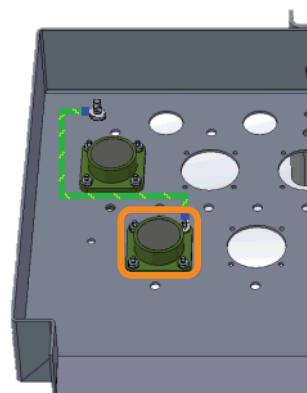

Figure 1 Install Ring Terminal
Step 1. Install the 3-pin cable for input power in the bottom of the cabinet in the leftmost hole in the front row. Insert the receptacle from the inside of the cabinet and the four screws from the outside. Install the nuts on the screws from the inside of the cabinet. See *Figure 1*.
- Step 2. Install the smaller ring terminal of the green/yellow ground wire to the last connector screw and secure it with the last nut. See *Figure 1*.
- Step 3. Use the existing nut to connect the larger ring terminal of the green/yellow ground wire to the ground stud. See *Figure 1*.